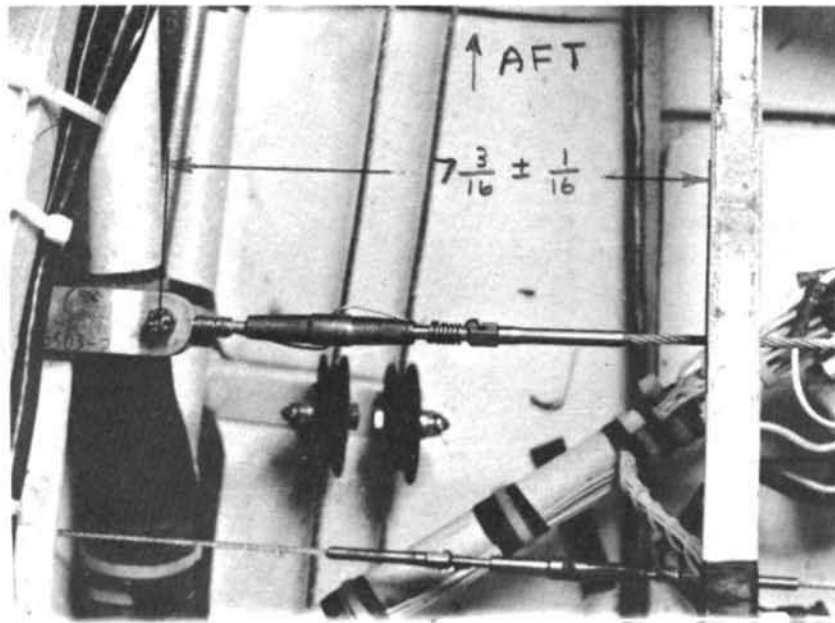

FIGURE 6-2 BELLCRANK NEUTRAL POSITION
d. Measure cable tension between bellcranks for 19 lbs. ± 2 . Adjust if necessary using the two turnbuckles under the instrument panel attaching the control cable to the chain. Make certain that the distance from the CL of bolt hole attaching the cable to the right hand bellcrank and the steel cross member (perpendicular to cable) is $7\frac{3}{16}'' \pm \frac{1}{16}''$ when the control wheel is in the neutral position. See Figure 6-2.